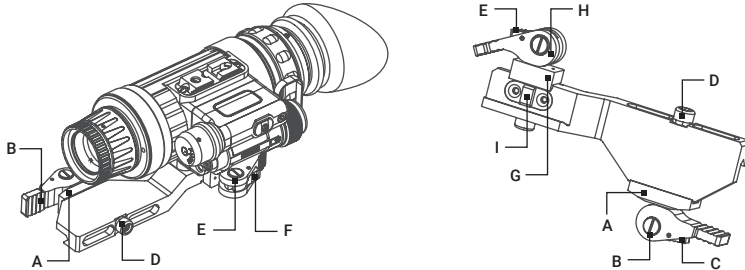

FIGURE 2-5. QUICK-RELEASE WEAPON MOUNT
To mount the Wolf-14 to a weapon using an optional quick-release weapon mount (QRWM), perform the following (refer to Figure 2-5):
1. While pushing down on the lever holder (C), turn the lever (B) backwards to loosen the QRWM clamping device (A).
2. Install the QRWM on the weapon rail by inserting the stop (not shown in Figure 2-5) into one of transverse slots of the weapon rail.
3. To secure the QRWM onto the weapon rail, turn the lever (B) forward. Secure the clamping device (A) tightly to the weapon rail. To adjust the force of the lever clamp, loosen or tighten the nut (D) as necessary.
4. While pushing down on the lever holder (F), turn the lever (E) forward.
5. Install the Wolf-14 on the QRWM rail by inserting the stop (G) into the transverse slot of the unit rail.
6. Attach the Wolf-14 to the QRWM rail by turning the lever (E) backwards. Secure the QRWM clamping device (H) tightly to the Wolf-14 rail. To adjust the force of the lever clamp, loosen or tighten the nut (I) as necessary.